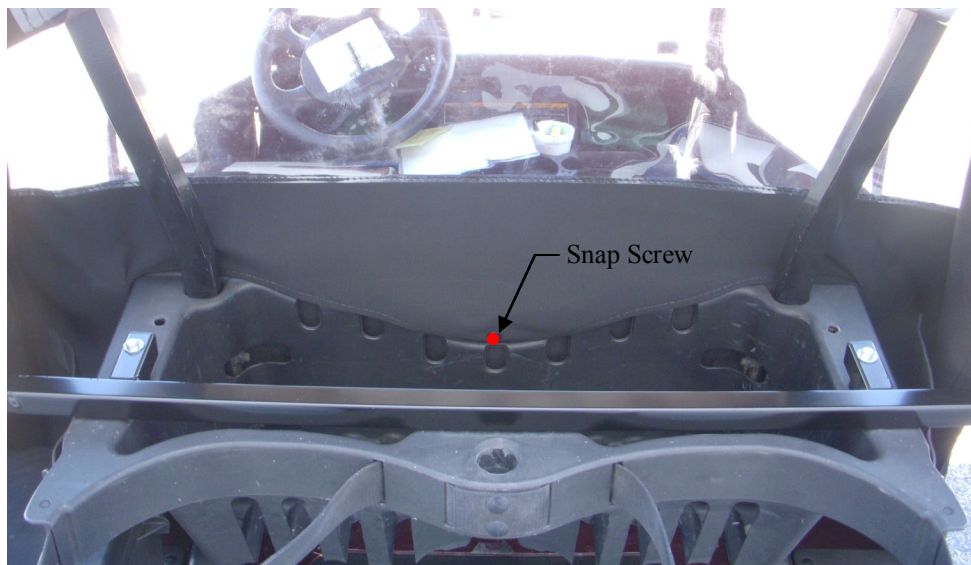

Figure 2-4
6. Install a snap screw in the rear seat as shown in figure 2-4. Please note that the snap screw is not a self drilling screw and a pilot hole should be made with an 1/8" drill bit.